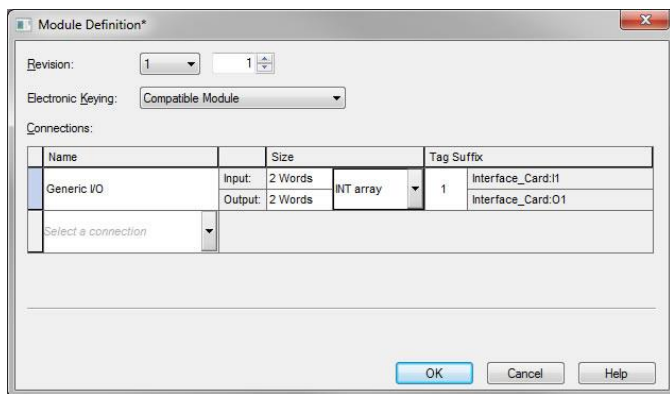

Figure 22: AOP Generic I/O Module Definition
- 3) Configure the Generic I/O connection. Refer to Figure 22.